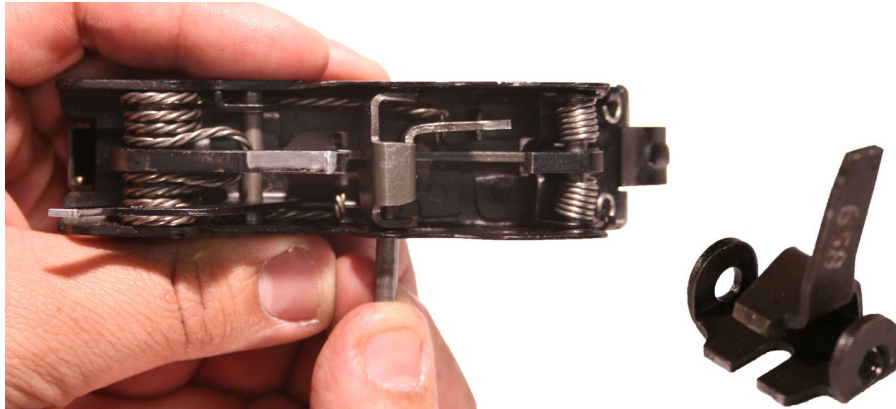

Figure 2. Remove the Retaining Pin from the Sear and Remove the Sear.
2. There are three retaining pins. Remove the center retaining pin, which is installed through the sear. Refer to Figure 2.